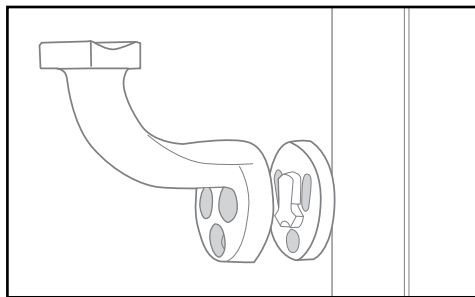

Fig. 17
- Align bracket or post return on post and mark as shown in instructions for each respective bracket. Before attaching to the post, insert the spacer block on the back of the bracket as shown - Fig. 17.